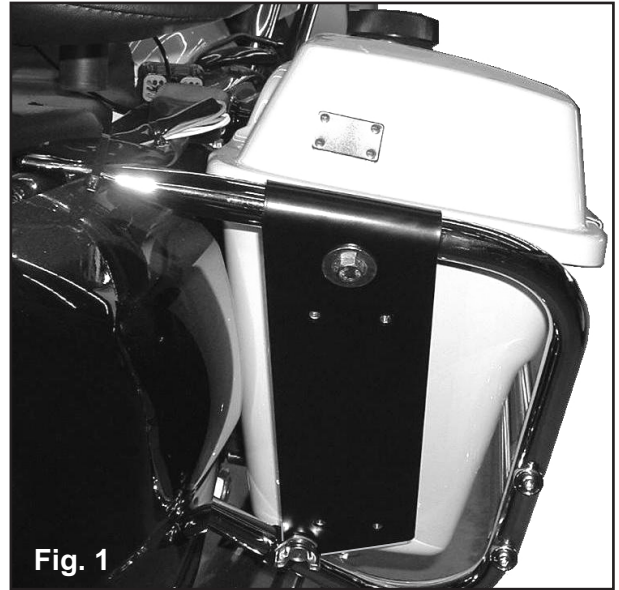

Fig. 1
1. Hook the top of the bracket over the top of the crash bar as shown in figure 1.